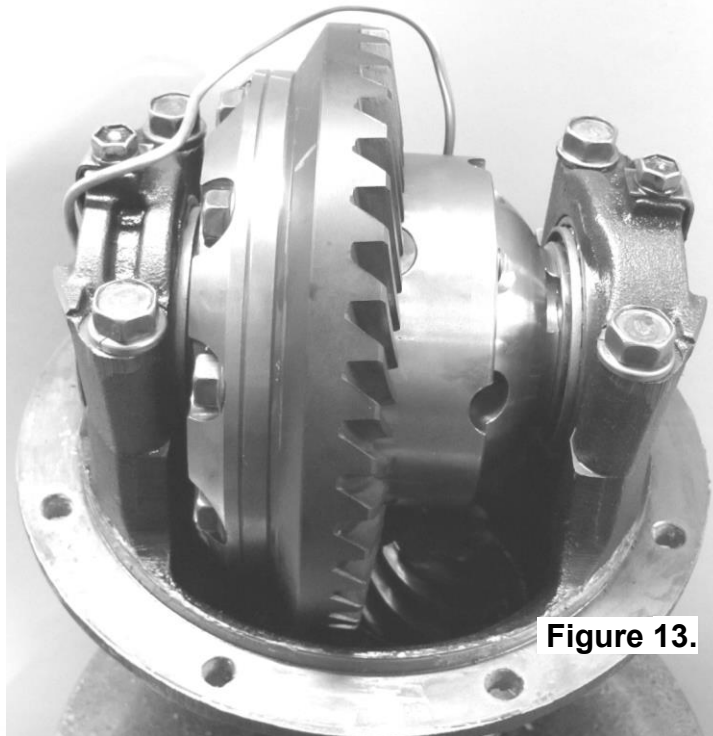

Figure 13.
- With the seal housing tube now firmly secured into the bulkhead fitting, bend the tube so that it closely follows the profile of the differential. (Figs.13. & 14.)